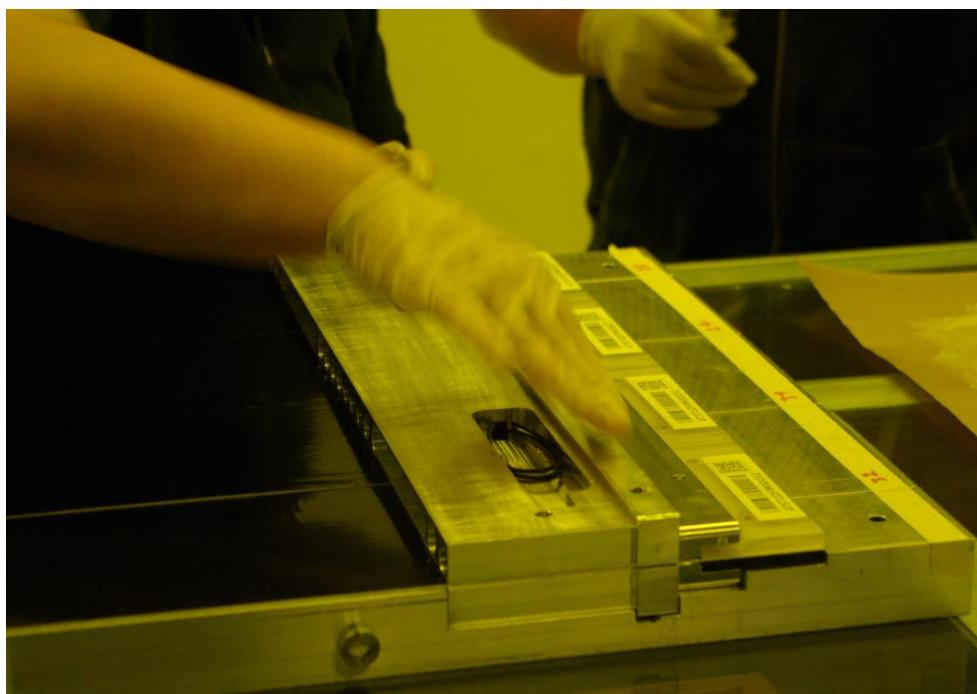
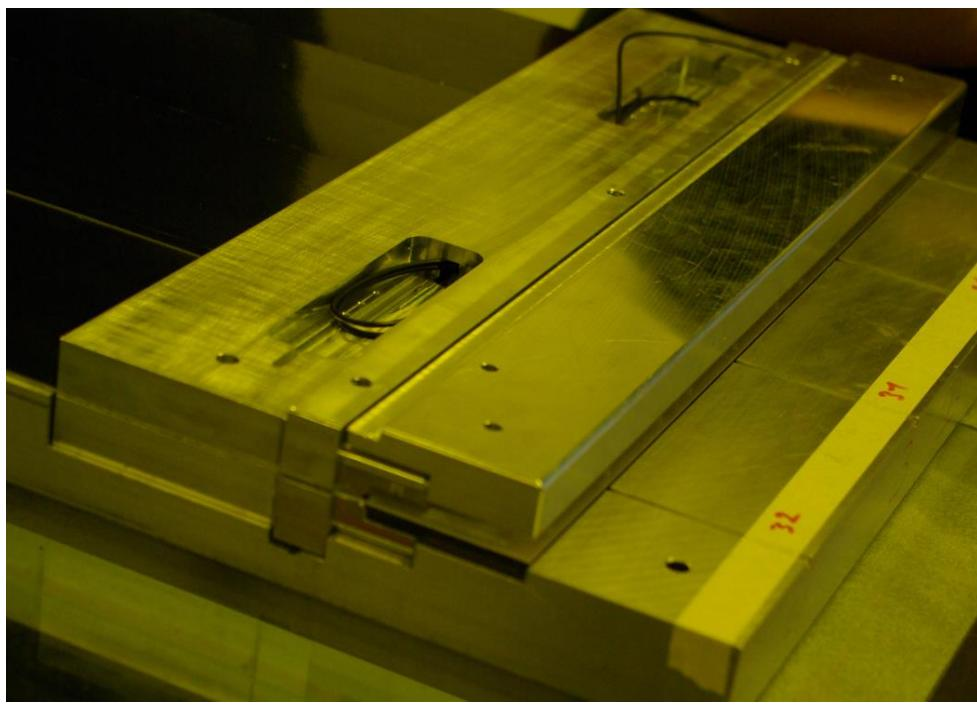
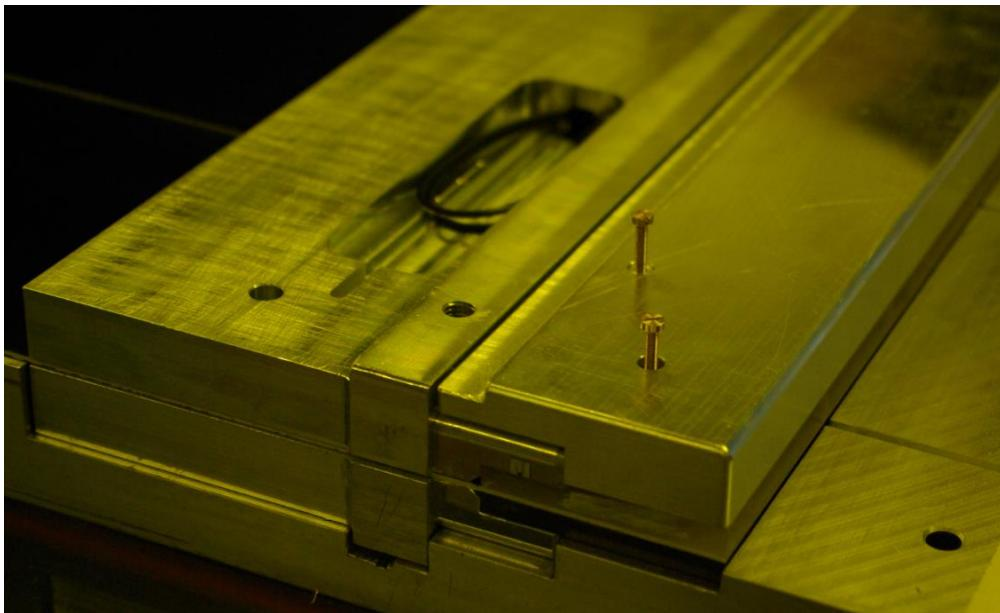

Figure 41 Endplug on mats
Figure 42 Bridge "HE_LHCb_SCIIFI_VOR_GJ_008201_D_0_ABSTECKVORRICHTING-EPiece-EPlug"
Figure 43 Insure proper fitting of the dowel pins into the endplugs and endpieces
5.1.4.8 Place endplugs (Figure 41) and align with bridges
"HE_LHCb_SCIIFI_VOR_GJ_008201_D_0_ABSTECKVORRICHTING-EPiece-EPlug" to the endpieces and dowel pins 4 x Ø6x20/M3 and 4 x Ø6x13/M3. After the dowel pins are well placed, remove the M3 screws. (Figure 42 and Figure 43)
Note: on Figure 41 and Figure 42 you can see tape on the jig with ending numbers of the mats written on it to remind the respective positions of the mats after the record and dry assembly)